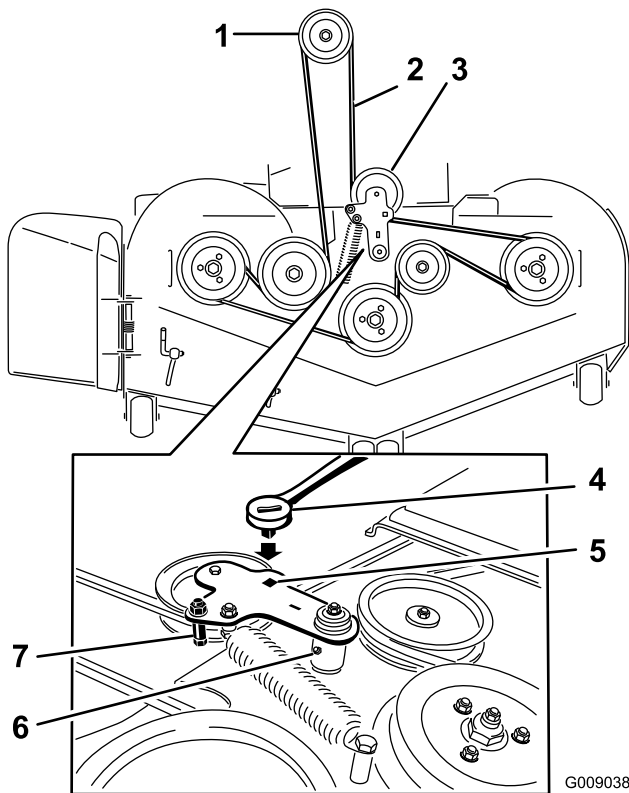

**Figure 74**
9. Hold the threaded rod end with a tool and adjust the lock nut until the spring length is between 1-1/2 and 1-9/16 inches (3.8 and 4.0 cm) (Figure 74). Do Not allow the cable to turn when the nuts are being loosened.